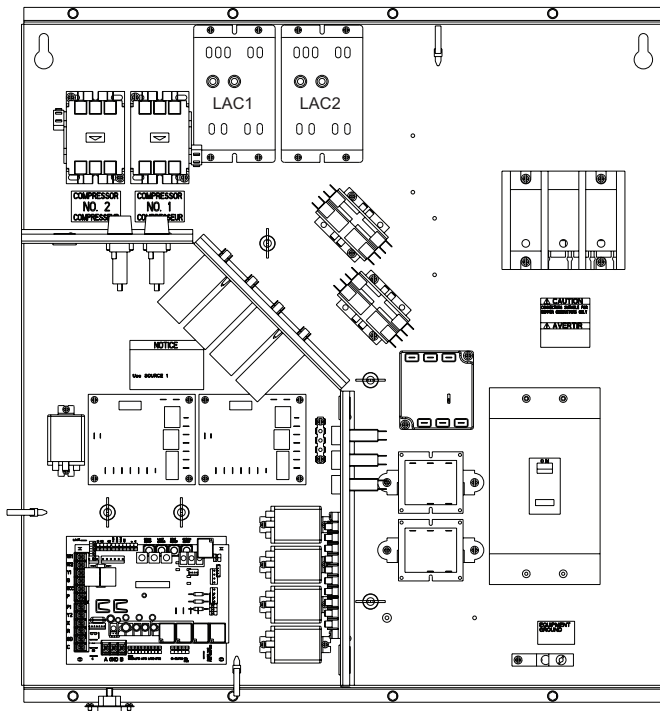

FIGURE 1: LOW AMBIENT CONTROL LOCATION
3. Mount the controller inside the control box with screws provided. See Figure 1.